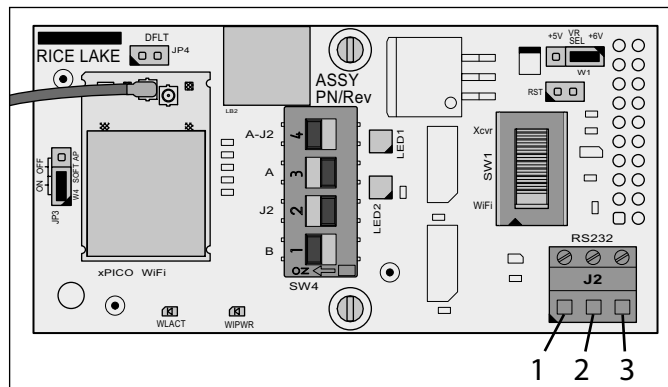

Figure 4. WLAN Option Board with Serial Port Pin Numbering
1. Move both the A-J2 and B switches to the ON position. See Figure 4 for the location of the SW4 switches.
3. Route cable to the J2 connector. See Figure 4 and Table 6 for wiring.